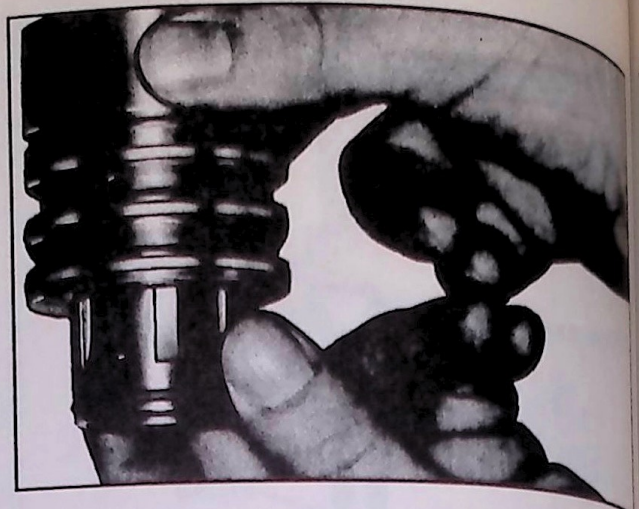

Fig. 44-Removing Spool Valve
3. Push the spool valve out of the flush end of the valve body until the dampener "O" ring is exposed, then carefully pull the spool from the valve body, while rotating the valve (fig. 44). If the spool valve becomes cocked, carefully realign the spool valve, then remove.